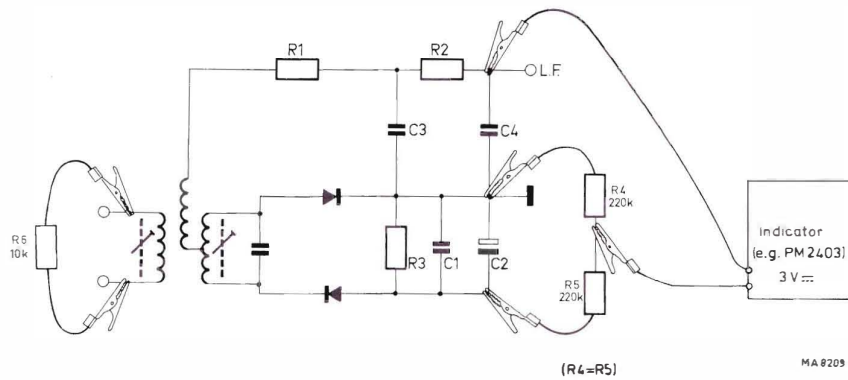

Fig. 12. Checking and adjusting the band-pass curve of the ratio detector of an f.m. receiver
- Terminate the primary circuit of the ratio detector with a resistor of approx. $10\text{ k}\Omega$ (R6, Fig. 12). Adjust the core of the secondary circuit to minimum deflection of the indicator, which is connected according to Fig. 12. Repeat the adjustment.